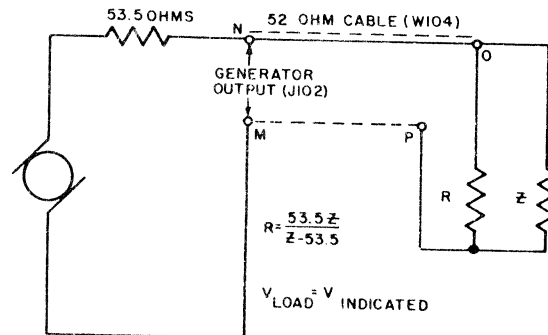

Figure 2-14. Equivalent Circuit of X MULT RF OUTPUT (J-102) with Shunt Resistor Added
b. If the load impedance is considerably less than 500 ohms, but more than 53.5 ohms, the impedance adapter is replaced by a non-inductive composition resistor which shunts the load (see figure 2-14). The equivalent impedance of the shunt and load should equal the generator impedance (53.5 ohms). The receiver input voltage will then be equal to the meter indication. For example; if the receiver input impedance (Z) is 120 ohms, select the correct shunt resistor (R) as follows: